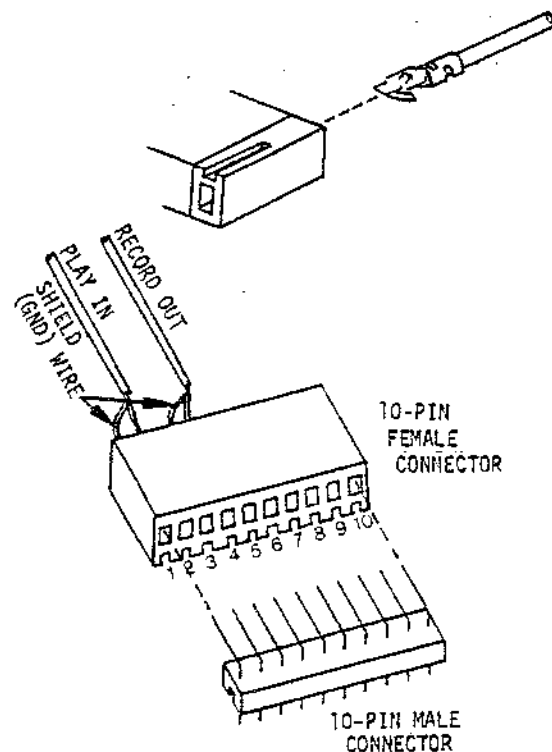

Figure 5-11. Inserting Pins in 10-Pin Female Socket
6. Refer to Figure 5-11. Note that the slots in the female socket are numbered from 1 to 10 on the face of the socket. Insert the shield (ground) pin (pin attached to shield wire) of one of the cables into slot 1 and the pin attached to the inner wire into slot 2. This cable should be labelled PLAY IN.